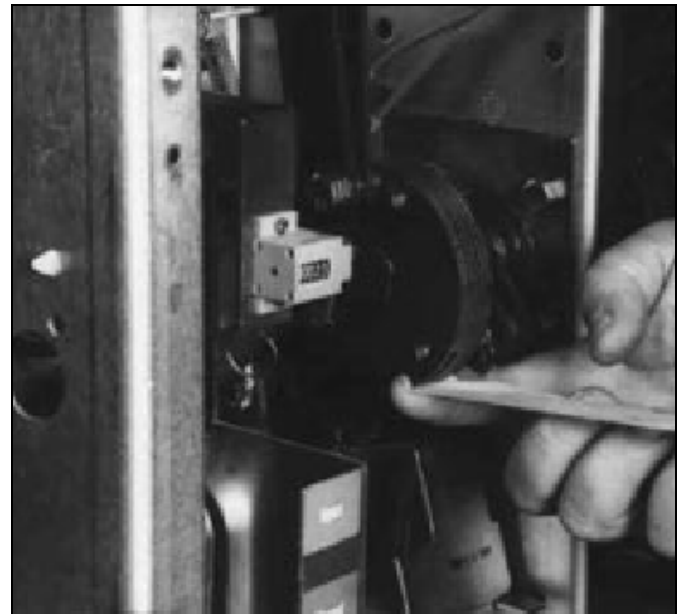

Figure 6-7 Starting Tape at Bottom of Cam
Step 4 - Place the tape around the cam starting from the bottom up. Make certain that the tape adheres well to the cam surface. (See Figures 6-7, 6-8 and 6-9).